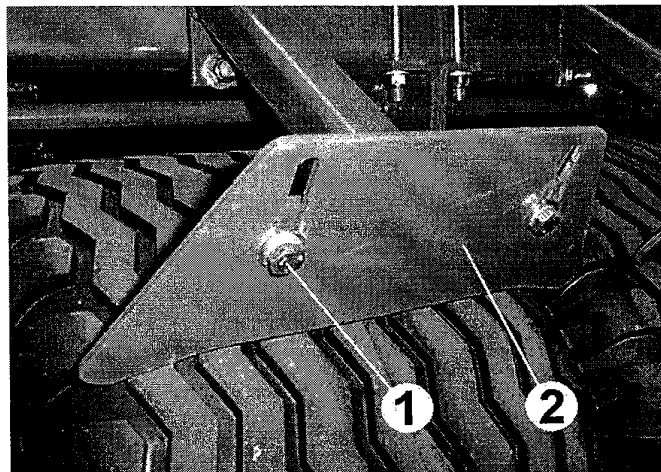

Fig 8
A set of press wheels consolidates the seed bed. Scrapers have been provided to keep the wheels clean. To adjust, loosen the retaining bolt (item 1, fig 8) and slide the scraper (item 2, fig 8) to the required position.